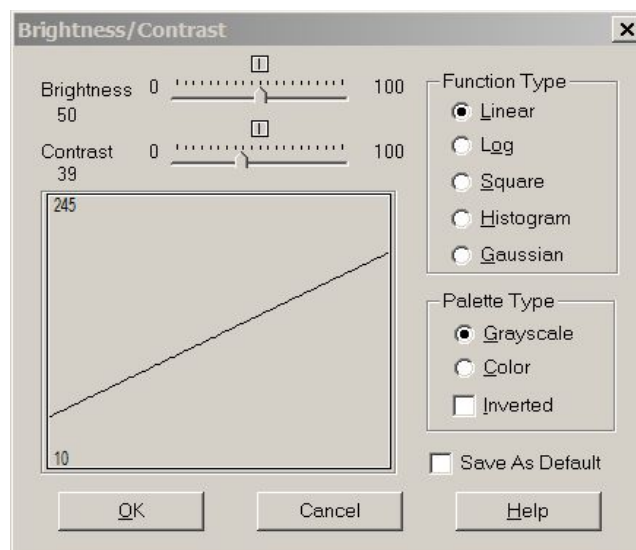

Figure 24
- A new box will appear. Moving the contrast slider, the gray level of the image will change (Figure 24).